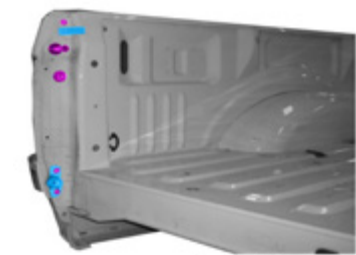

Figure 1
4. On both sides, install the Torx® screw, tailgate tether and bolt, tailgate bumper and bolt, tailgate striker and bolt, and the tailgate hinges and bolts. See [Figure 1]